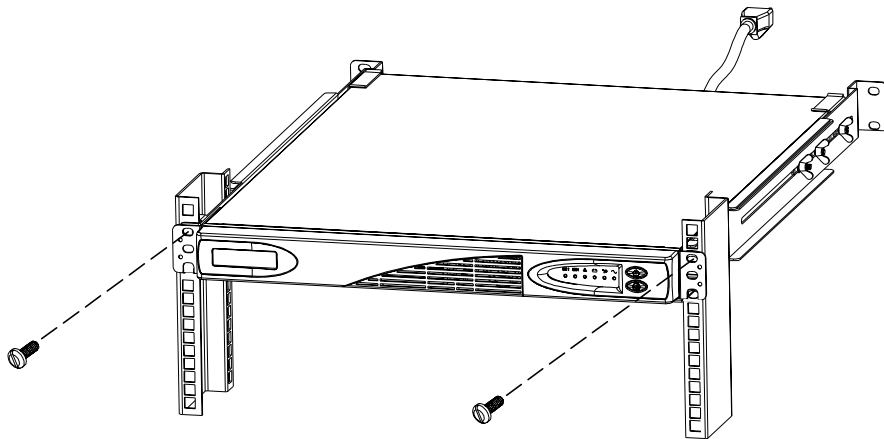

Figure 6. Securing the UPS in a 19" Rack
11. After installing the UPS chassis, secure the front of the UPS to the rack using the supplied hardware (one M6 × 10 screw on each side as shown in Figure 6).